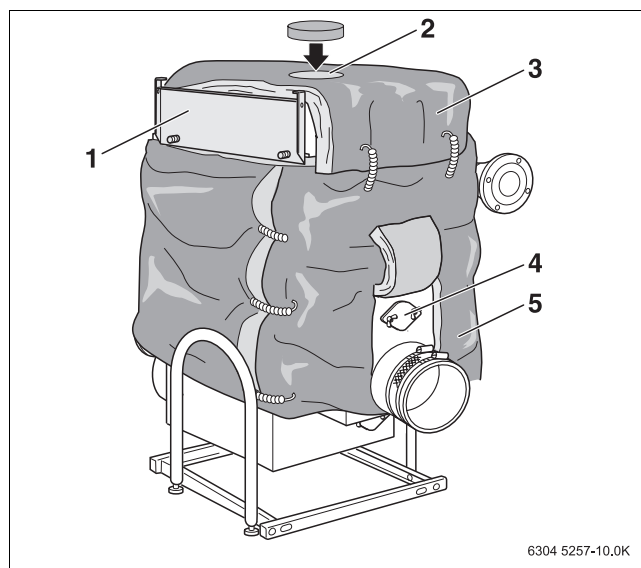

Fig. 11 Fitting the insulation/flue gas distributor
- Working from above, place the insulation over the flue gas distributor and push the right and left side ends behind the beams (Fig. 11).